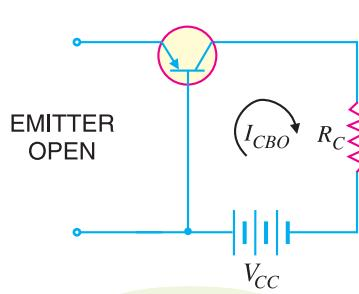
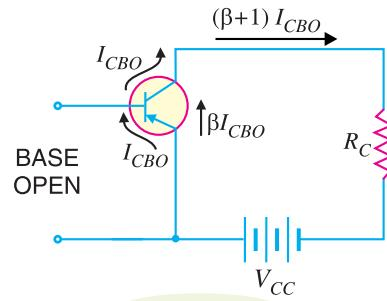

Fig. 8.24
Fig. 8.25
**Solution.** The leakage current  $I_{CBO}$  is the current that flows through the base-collector junction when emitter is open as shown in Fig. 8.24. When the transistor is in CE arrangement, the \*base current (i.e.  $I_{CBO}$ ) is multiplied by  $\beta$  in the collector as shown in Fig. 8.25.